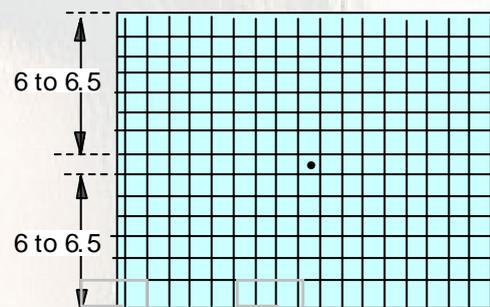

Fig.2-6 NTSC cross hatch
2. Use the [VOLUME +/-] key of the jig remote control and adjust until the numbers of squares in both upper and lower halves of screen satisfy the specification. (Fig. 2-6)